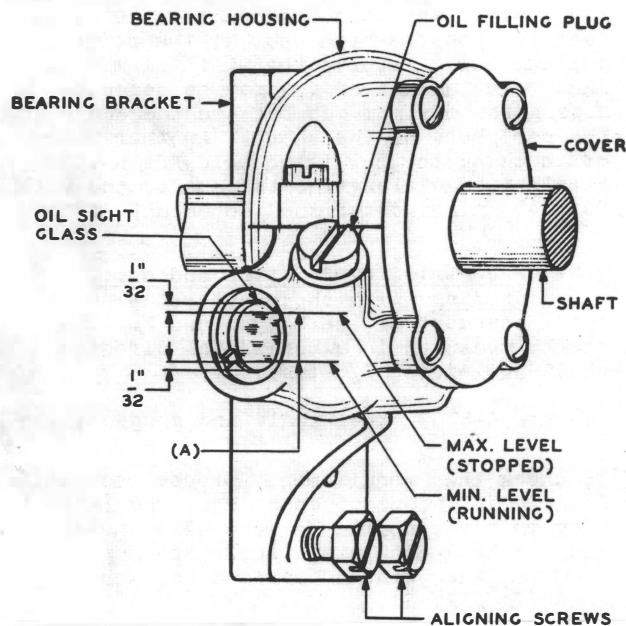

Fig. 18 - Oil Level Limits of Bearing Housing
2.31 Lubrication of Bearings: Fig. 18(A)